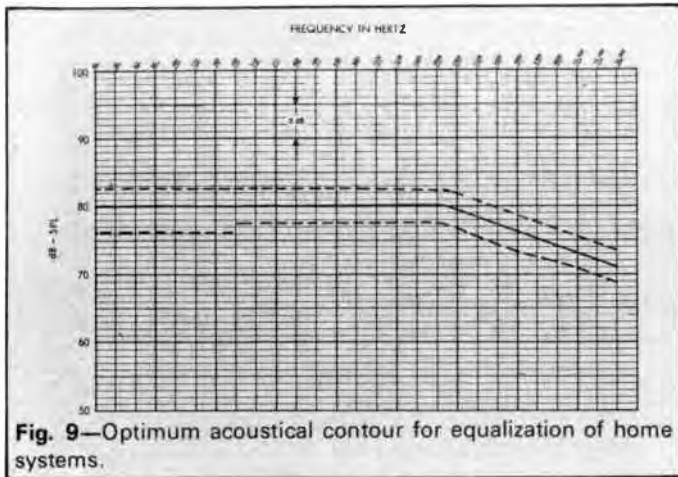

Fig. 9—Optimum acoustical contour for equalization of home systems.
4. Don't try to equalize the system to a *flat* contour. Let it roll off above 2 kHz at about 3 dB-per-octave. This is shown in Fig. 9. A tolerance of $\pm 2\frac{1}{2}$ dB can usually be maintained over the range from about 200 Hz up to 8 or 9 kHz, if sufficient care is taken. Below 200 Hz, the effects of room resonant modes, with their characteristic peaks and dips, tend to dominate the response. In the region below 200 Hz we simply have to accept dips in the response of perhaps 4 dB; peaks should be held as low as possible. Always perform the equalization with the SLM located at the prime listening position.